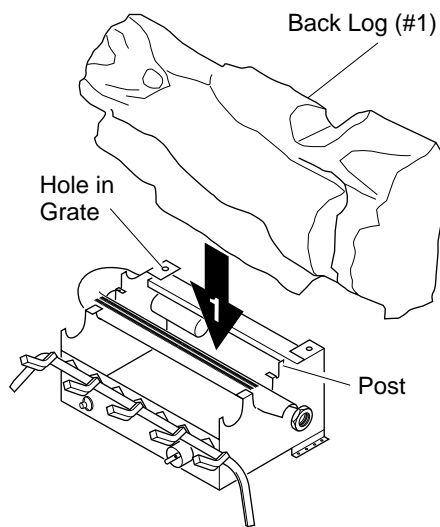

Figure 27 - Installing Back Log
1. Place the back log (#1) onto the back of the burner. Make sure the log sits down into the hole in the grate and leans forward onto the two posts in front of the log (see Figure 27).